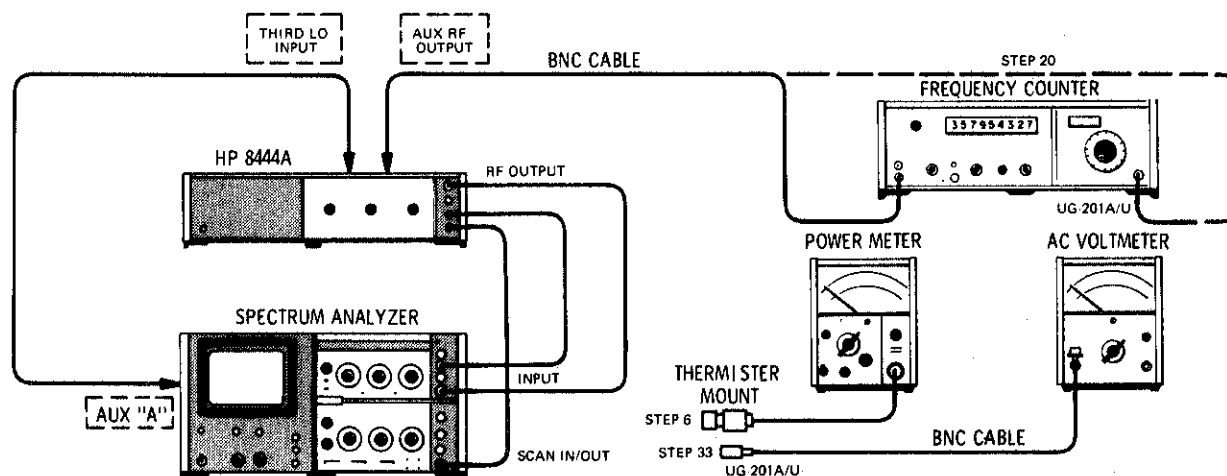

Figure 4-1. Output Level Accuracy Test Setup
2. Connect test setup as indicated in Figure 4-1 and make the following control settings: